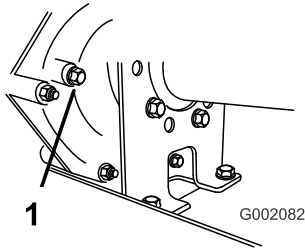

Figure 58
2. Remove the bolt from the level-indicating hole (Figure 58).